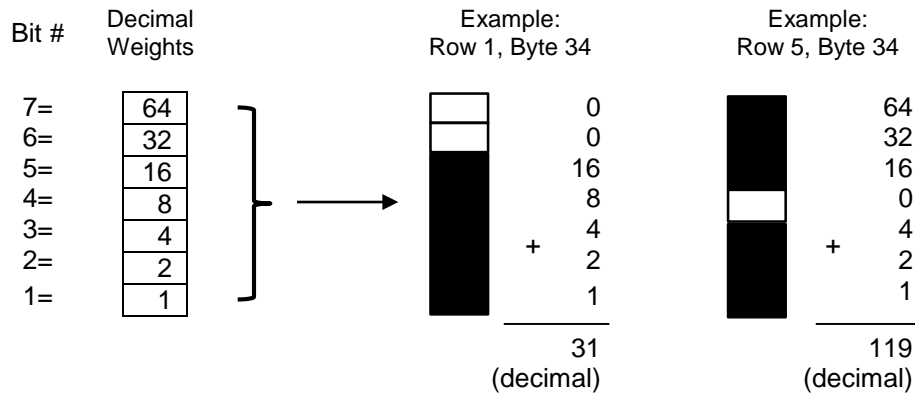

Figure 38 Logo Design
8. Define the logo, and return to the form to add the logo data. The HandCraft logo is a hand with a sailboat as plotted in Figure 38. (Use the Logo Grid in Appendix C to plot the dot positions for your logo the same way.) Drawing the logo out on a grid permits the dot positions for each vertical data byte in the logo to be computed and input as data in the Plotting Graphics (Q) command. Notice that
For example, the values in Table 69 have been assigned to bits 1 through 7 for the first 0.1-inch row of data bytes (1 through 42) shown in Figure 38. Each byte was first calculated in decimal and then converted to the equivalent hexadecimal value (using the ASCII chart in Appendix A). The hexadecimal values are the data for the program shown on page 266.
Following this scheme, all hex data bytes for an entire 0.1 inch row (seven vertical dot rows) of the logo can be calculated. Subsequent rows are calculated similarly. To print each 0.1-inch row of the logo, the print position is shifted down 0.1 inch using the Justification command, and then the same vertical data byte columns are used. (See the second example in Figure 38.)
Following this scheme, all hex data bytes for an entire 0.1 inch row (seven vertical dot rows) of the logo can be calculated. Subsequent rows are calculated similarly. To print each 0.1-inch row of the logo, the print position is shifted down 0.1 inch using the Justification command, and then same vertical data byte columns are used. (See the second example in Figure 38 on page 265.)